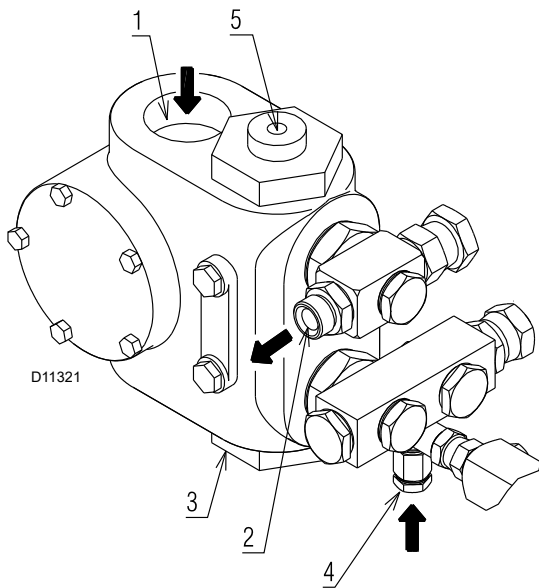

Fig. 23
Key (Fig. 23)
- In order for the pump (Fig. 23) to be able to self-prime, the screw 4) must be loosened to purge the air in the suction line.
If the pump has been drained, fill it with fuel through the opening on the vacuumeter 4)(Fig. 23) prior to starting; otherwise, the pump will seize.